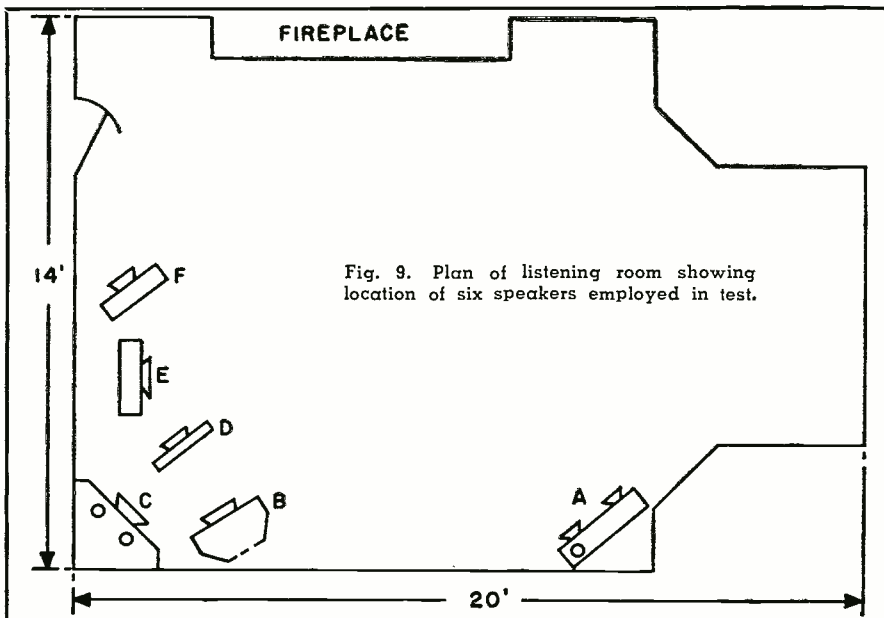

Fig. 9. Plan of listening room showing location of six speakers employed in test.
It is necessary to include another plan of my own listening room to show the disposition of the half dozen speakers used in the tests. (See Fig. 9.) The corner speaker referred to as A in Fig. 7 of Part 2 now becomes C.
Fig. 8. Photograph of speakers outlined in Fig. 9 (A) Three-speaker system used in tests described in Part 2. (B) "Super 12" in Electro-Voice "Aristocrat" cabinet. (C) Three-way corner system. (D) Ten-inch speaker on sand-filled 28" x 24" baffle. (E), (F) Ten-inch speaker in 2 cu. ft. bass-reflex enclosure with acoustic filter.